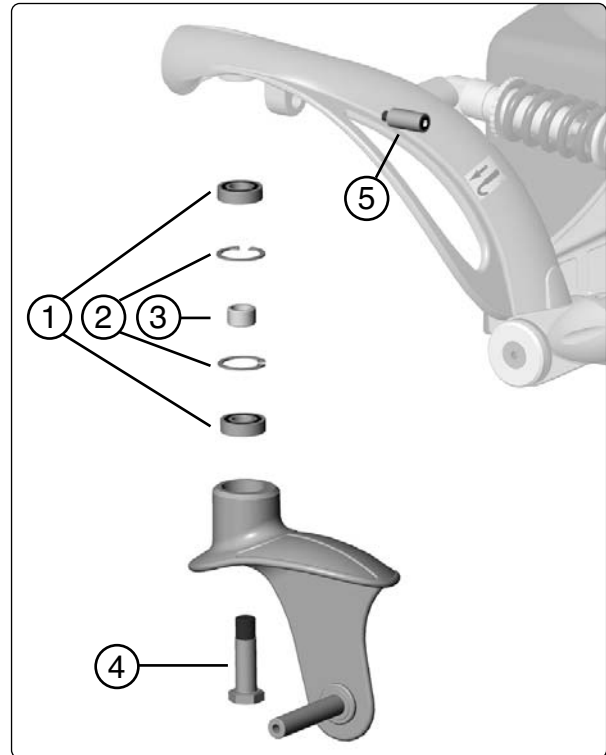

Fig. 27. Wheel fork with friction brake.
4. Remove the wheel fork. It is attached with a bolt from beneath; see figure 27.